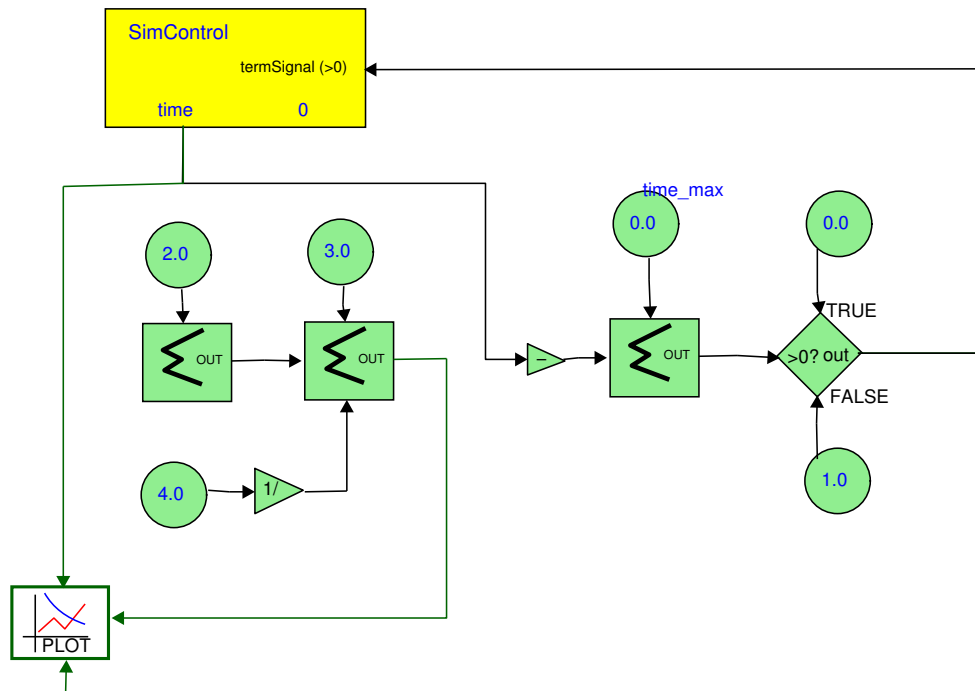

Figure 1: Algebraic Model CBD
2. The simulator must be able to handle Discrete-Time models as well as purely algebraic models as shown in model algebraTest\_CausalBlockDiagram.mdl.py. The model is shown in Figure 1 Note how the time\_max is 0.0. Your simulator should calculate a solution at that time only.